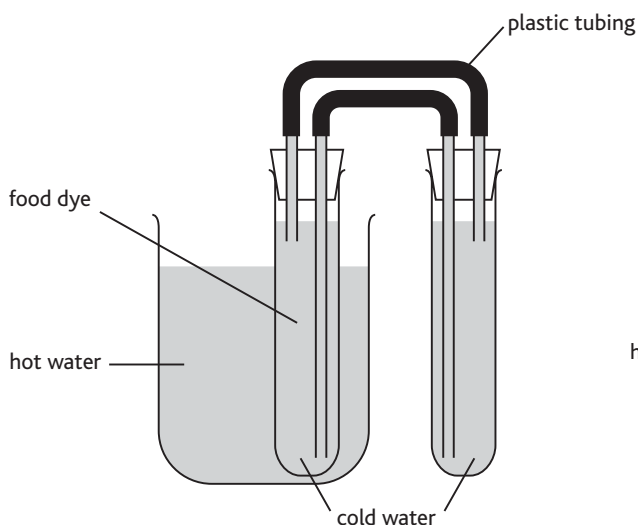
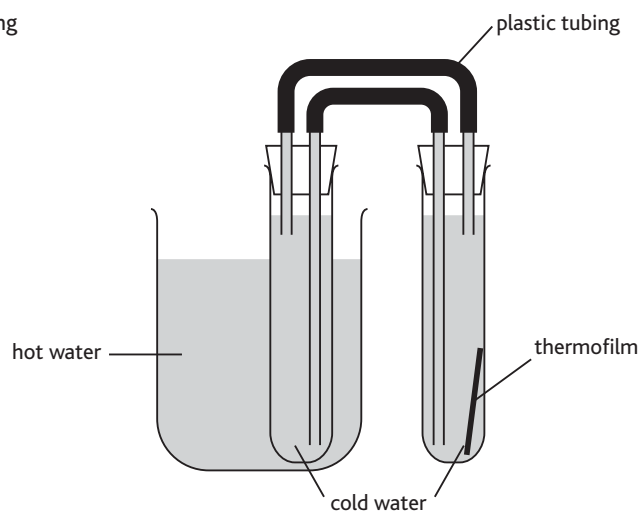

Figure 6
Figure 7
1. Thread the plastic tubing through the two bungs as shown in Figure 6 and Figure 7.
2. Place the food colouring in one of the tubes, as shown in Figure 6.
3. Place the thermofilm in the other tube, as shown in Figure 7.
7. Stand the boiling tube containing thermofilm in the boiling tube rack and the other boiling tube, containing food colouring, in a beaker of very hot water as shown in Figure 6 and Figure 7.